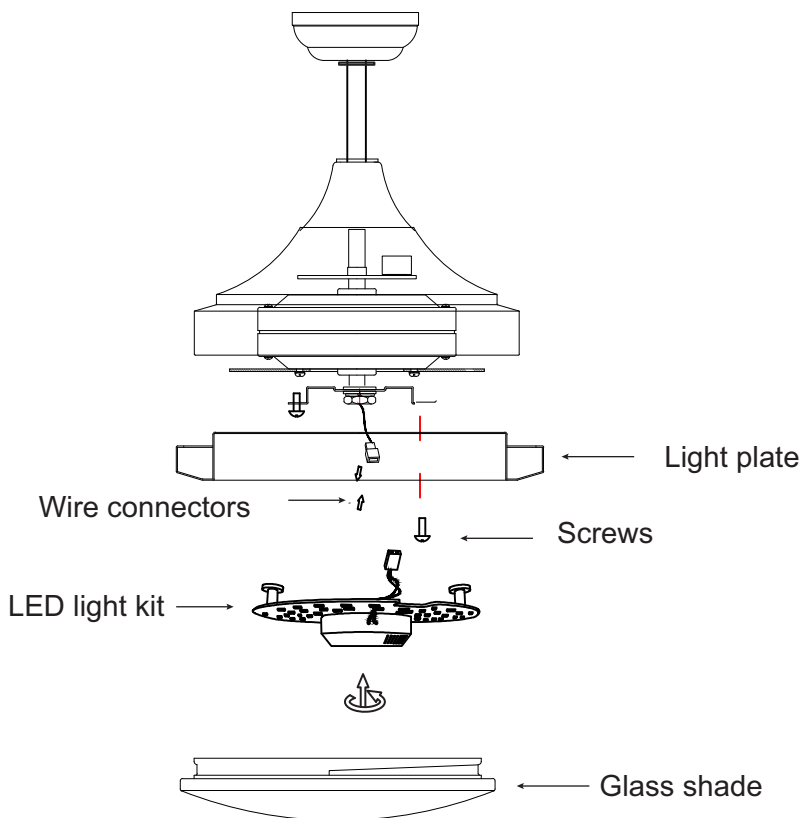

Fig 15
Step 1. Loosen three screws on the mounting ring, "remove" one screw and save it for later use.(Fig.15)
Step 2. Place the key hole slots on the light plate over the two screws previously loosened on the mounting ring.then turn the light plate until it locks in place at the narrow section of the key hole slots. Finally tighten both key hole screws and replace the third screw previously removed and tighten securely.(Fig.15)
Step 3 .While holding the LED light kit under the fan motor, make the wire connections:(Fig. 15)
Then place the LED light kit onto the light plate by magnet (Fig. 15)
Step 4 . Raise the glass shade against the LED light kit and turn clockwise until snug(fig.15).